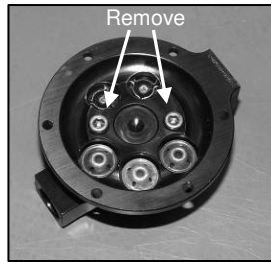

Fig 1
2. Remove the two allen bolts in the center of the valve body to remove the bottom (inlet) (Fig 1)